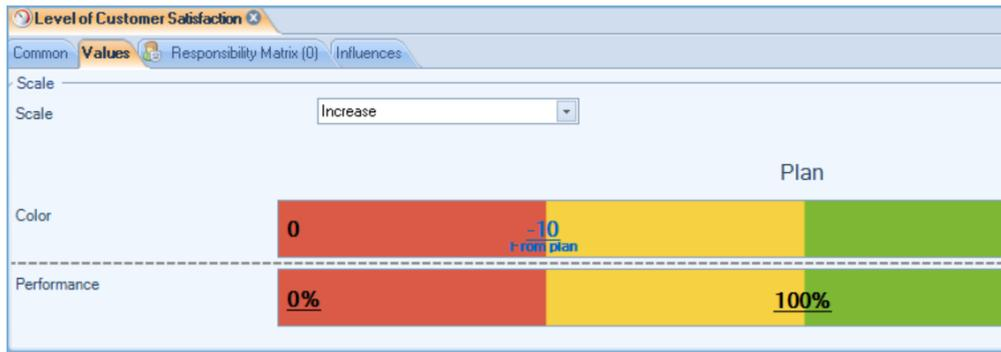

Fig. 21. Scale Configuration
- In **Performance** line select a 100% value. Upon reaching 100% of **Plan Value** indicator light turns green. (Fig. 21).